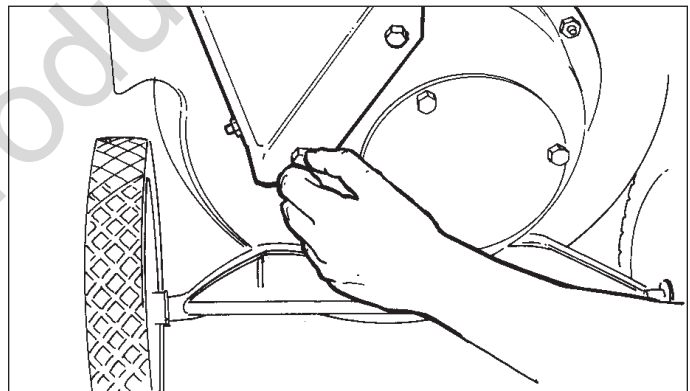
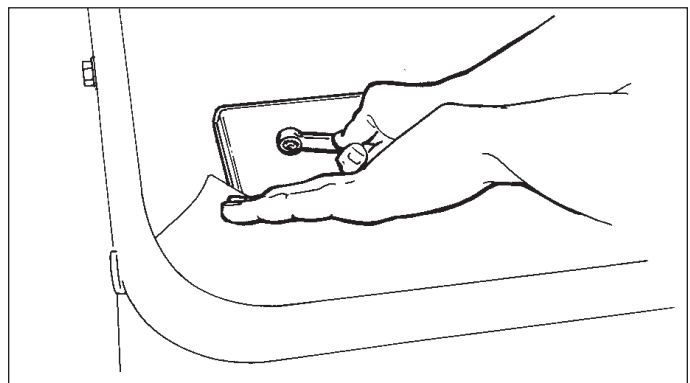

Figure 3. Attaching Hopper to the Rotor
Figure 4. Installing Hardware Inside Hopper
1. Attach the hopper to the rotor housing, using care to engage the metal lip of the hopper liner to the inside of the housing as shown in figure 3.
2. Secure the hopper to the rotor housing using (2) 5/16 x 1/2 hex head bolts and (2) 5/16 flat washers. Do not tighten hardware at this time.
3. See figure 4. From the inside of the hopper, install (1) 5/16-18 x 3/4 hex head bolt, 5/16 lockwasher, and 5/16 flat washer into each of the upper and lower holes of the metal hopper liner, and tighten finger-tight.